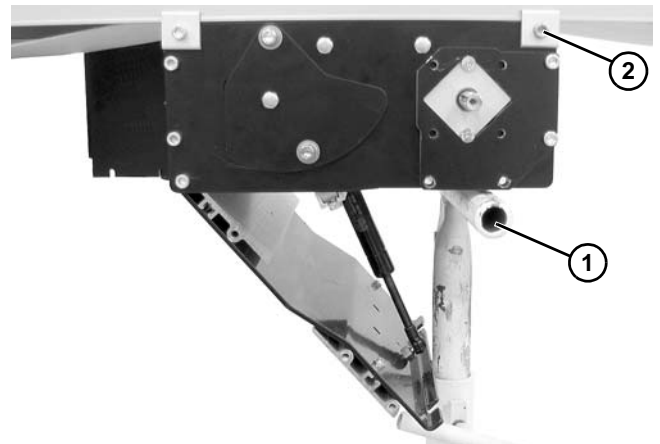

Figure 49
1. Place temporary support (Figure 49, item 1) underneath the drive module.
2. Loosen clamp screws (Figure 49, item 2) on each corner of the module. Remove the module.